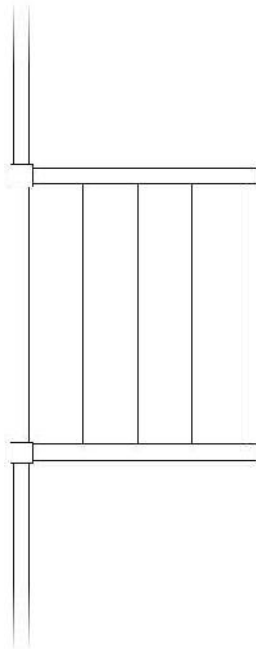

FIGURE 5.25: The completed front stairs
16. Trim away the four short lines that pass through the two 4" (102 mm) posts, and erase the additional line along the inside perimeter. When complete, your front stairway should look like Figure 5.25.